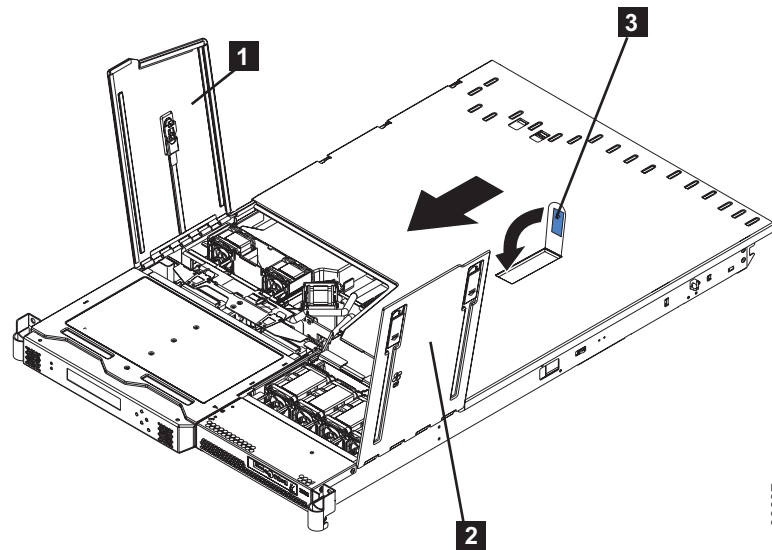

Figure 96. The SAN Volume Controller 2145-8F2 with fan doors open
3. Press down on the cover release latch **3**, which is shown in Figure 96, until the cover properly engages all the inset tabs on the SAN Volume Controller 2145-8F2.